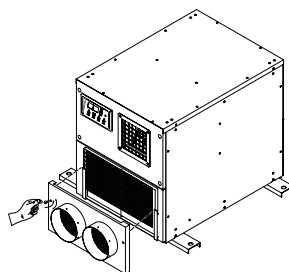

Figure 16 - eva flange attachment
4. Use screw (enclosed inside of box with air duct flange) to install the flange as shown in Figure 16.